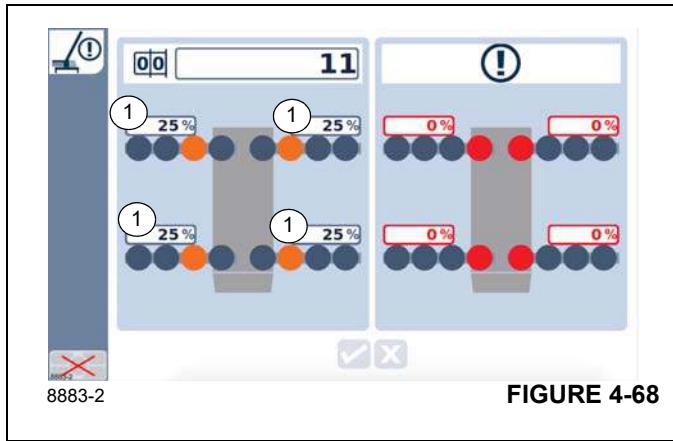
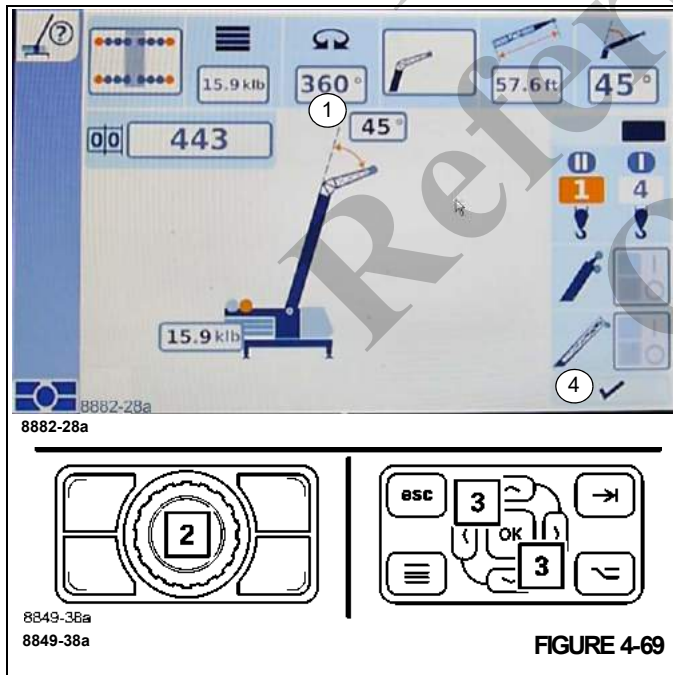

FIGURE 4-68
FIGURE 4-69
If the OMS does not match the selected positions, an additional screen opens after selecting the check mark (4), (Figure 4-69) at the bottom right corner of this screen. There, the detected positions and selected positions are shown side by side (1), (Figure 4-68).
- Select and confirm the symbol (1), (Figure 4-69).
- Use the buttons (2), (Figure 4-69) or (3), (Figure 4-69) to select the required swing range, e.g. 360°.